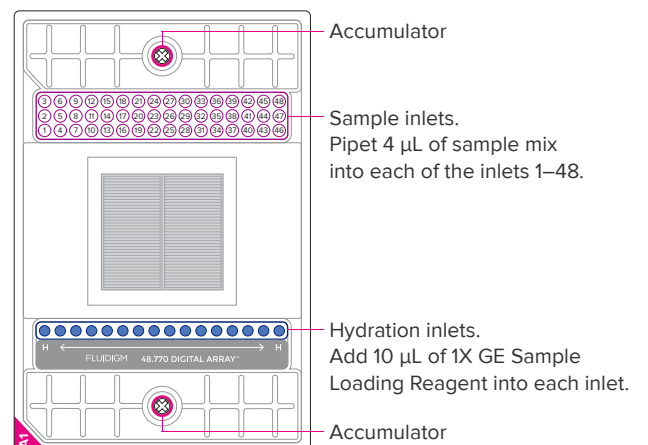

Figure 1. 48.770 IFC pipetting map
- 1 Inject control line fluid into each accumulator on the IFC (Figure 1). Use the entire contents of the syringe.
- 2 Pipet 10 μL of 1X GE Sample Loading Reagent into each hydration inlet (Figure 1).
- 3 Pipet 4 μL sample mix into each sample inlet (Figure 1).